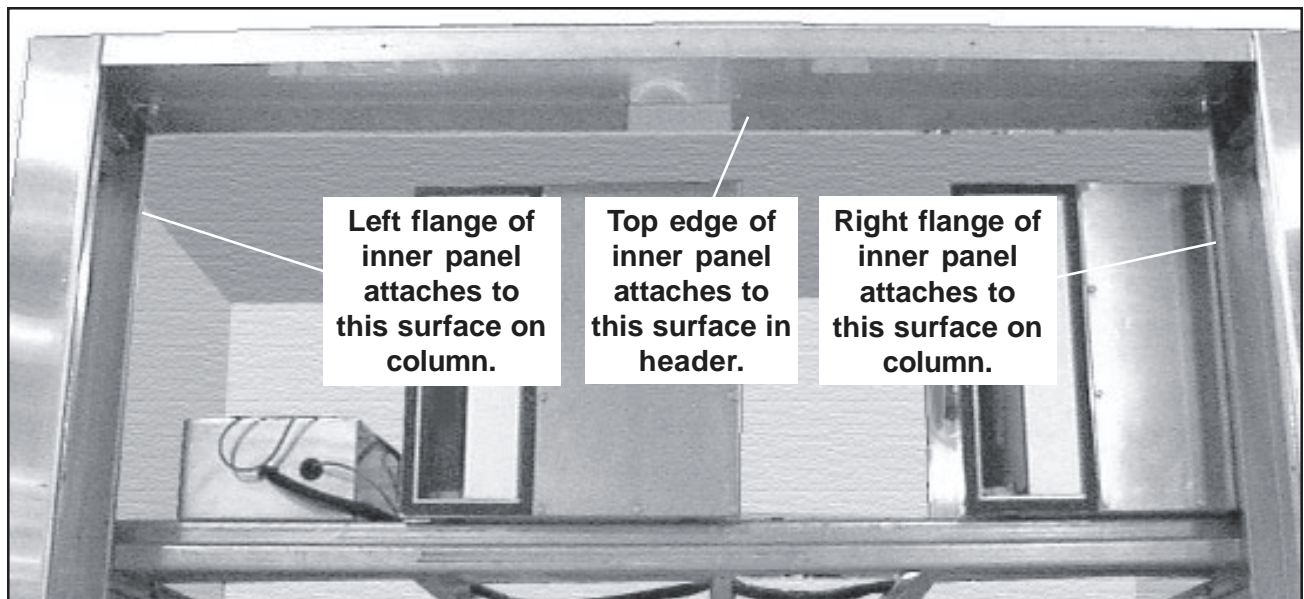

Figure 14. Inner Panel Mounting Points
2. With a Phillips screwdriver, mount the top edge of the inner panel to the rear, inside surface of the header (Figure 14) with four screws (supplied).
3. Mount the left flange of the inner panel to the left column with two screws as shown in Figure 14.